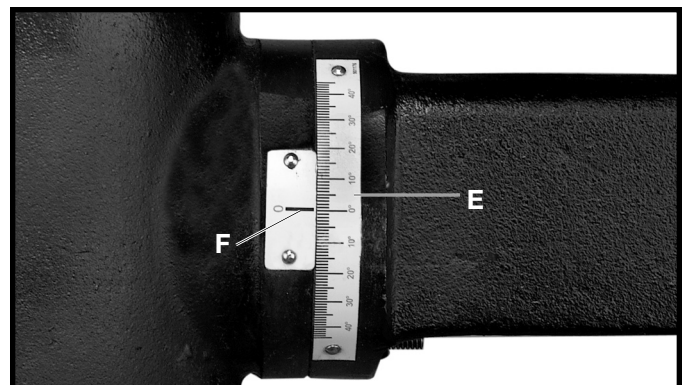

Fig. 26
5. A tilt scale (E) Fig. 26, is provided on the table bracket casting to indicate the degree of tilt. A witness line and zero mark (F) are also provided on the table to line up with the scale (E).